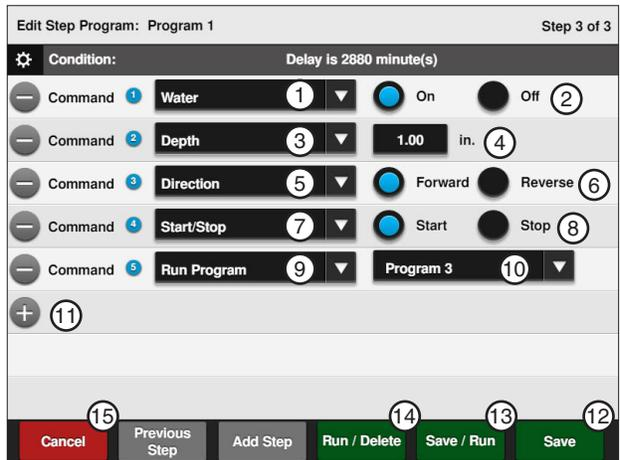

Figure 128-2 1. Water Command 9. Run Program Command
30. Enter the commands to be executed after the delay. Refer to Figure 128-2.
31. Finish the program by selecting one of the following. Refer to Figure 128-2.